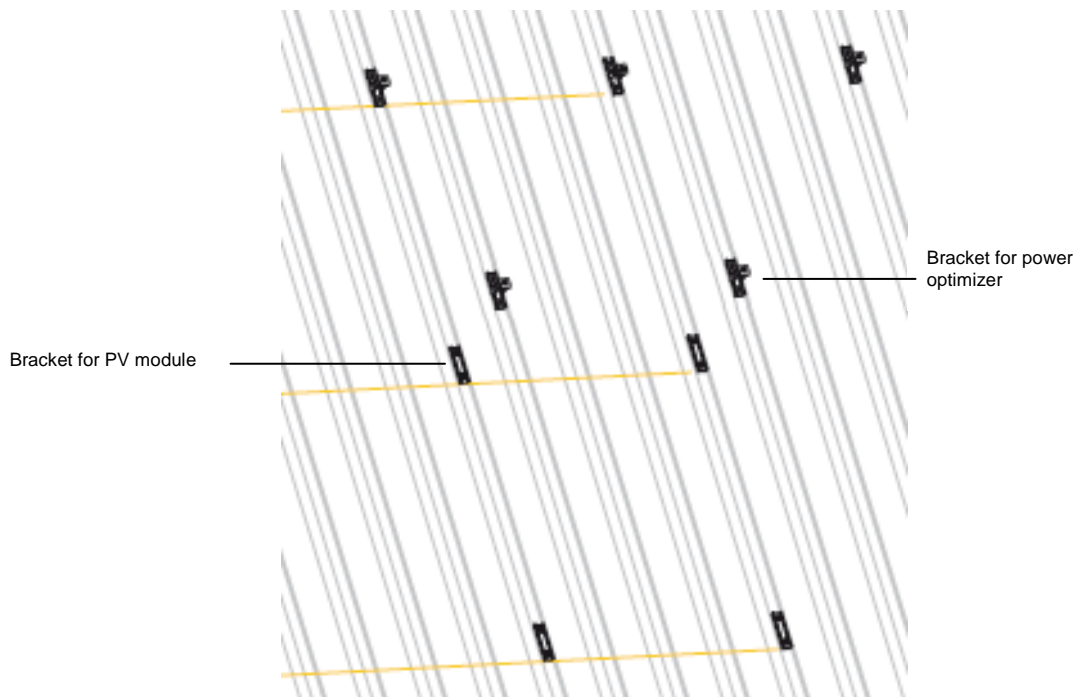

Figure 2 – Metasole support profiles for PV modules and for power optimizers
- 1 Determine the power optimizers' locations on the roof (see Figure 2). Make sure that the power optimizer will not interfere with the junction box or the PV module frame after the installation.